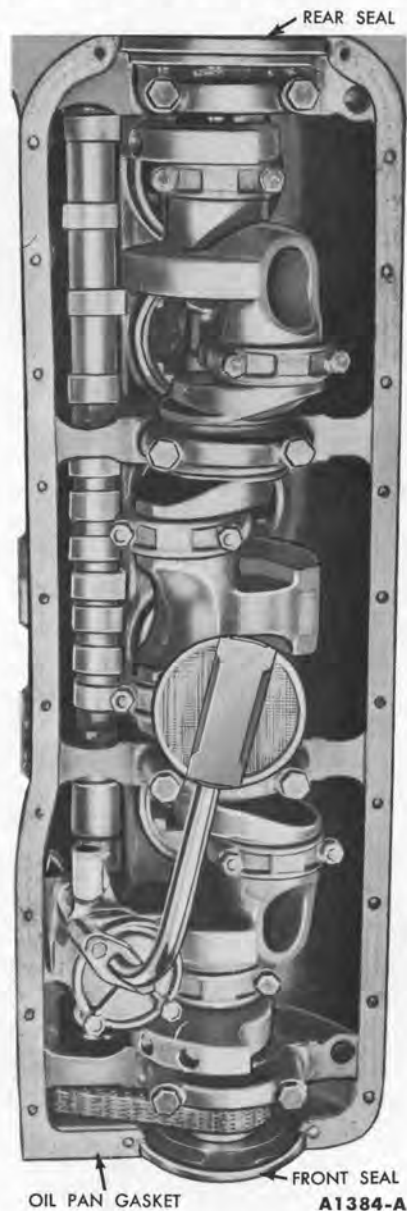

FIG. 67—Oil Pan Gasket and Seals Installed
2. Clean the gasket surfaces of the block and oil pan. The oil pan has a two-piece gasket. Coat the block surface and the oil pan gasket surface with sealer. Position the oil pan gaskets on the cylinder block (Fig. 67).
3. Position the oil pan front seal on the cylinder front cover (Fig. 67). **Be sure the tabs on the seal are over the oil pan gasket.**
4. Position the oil pan rear seal on the rear main bearing cap (Fig. 67).